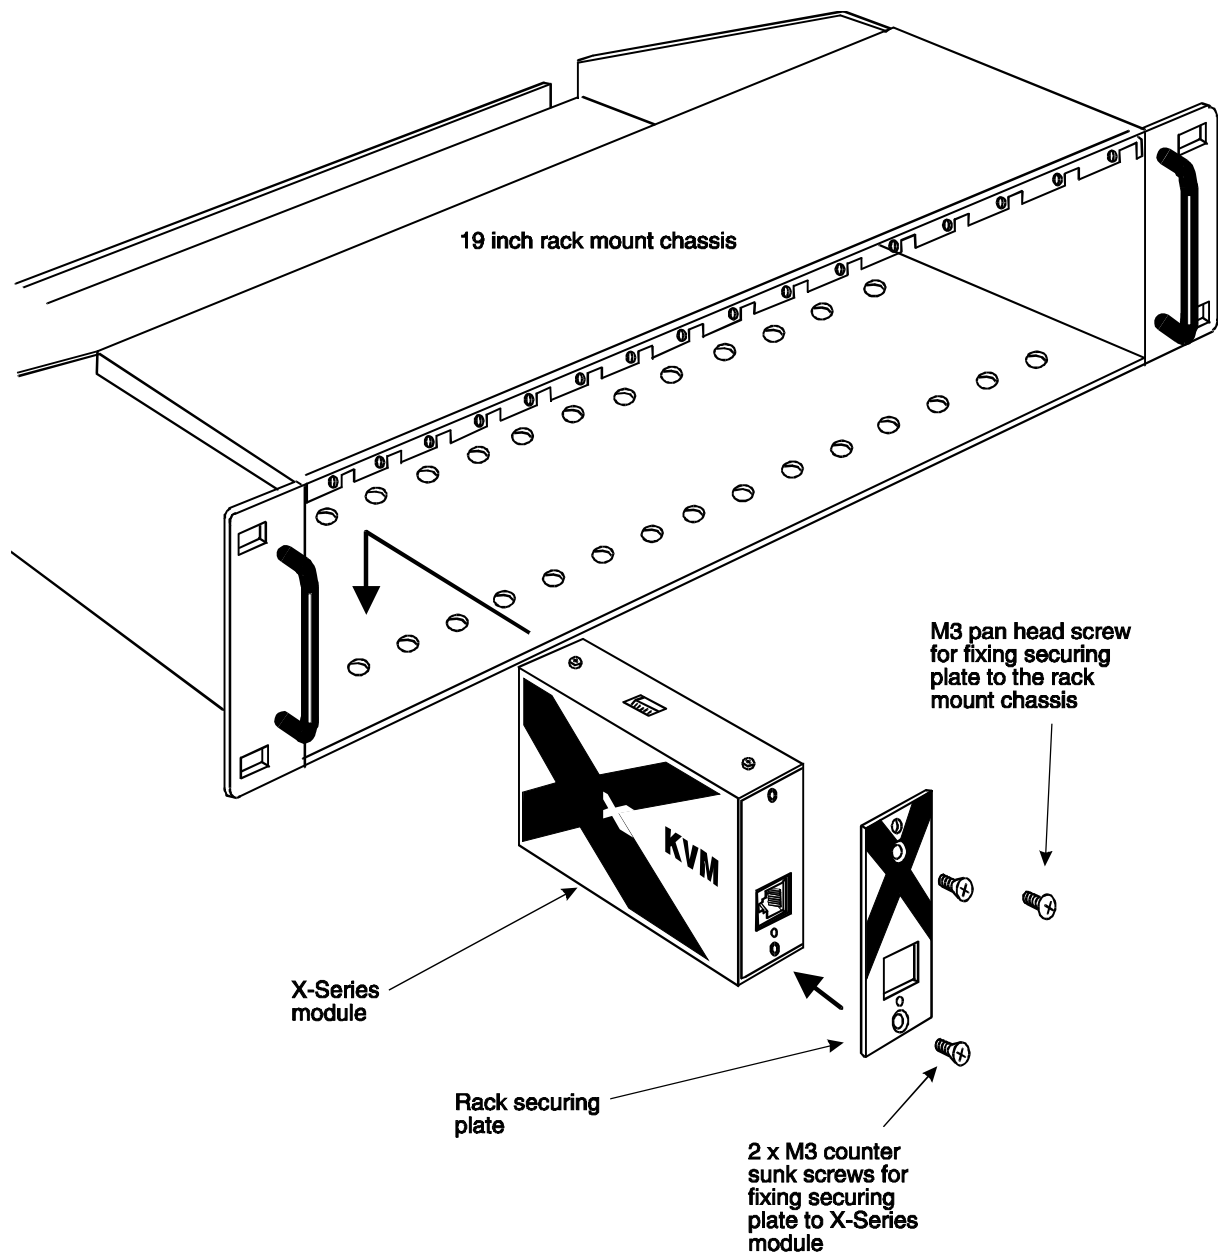

Figure 10 – Rack mounting X-Series modules
2. Offer the assembly into the rack mounting chassis as shown in figure 10 and locate the module so that the two pan head screws fit inside the mating fixing holes in the base of the rack mount chassis.